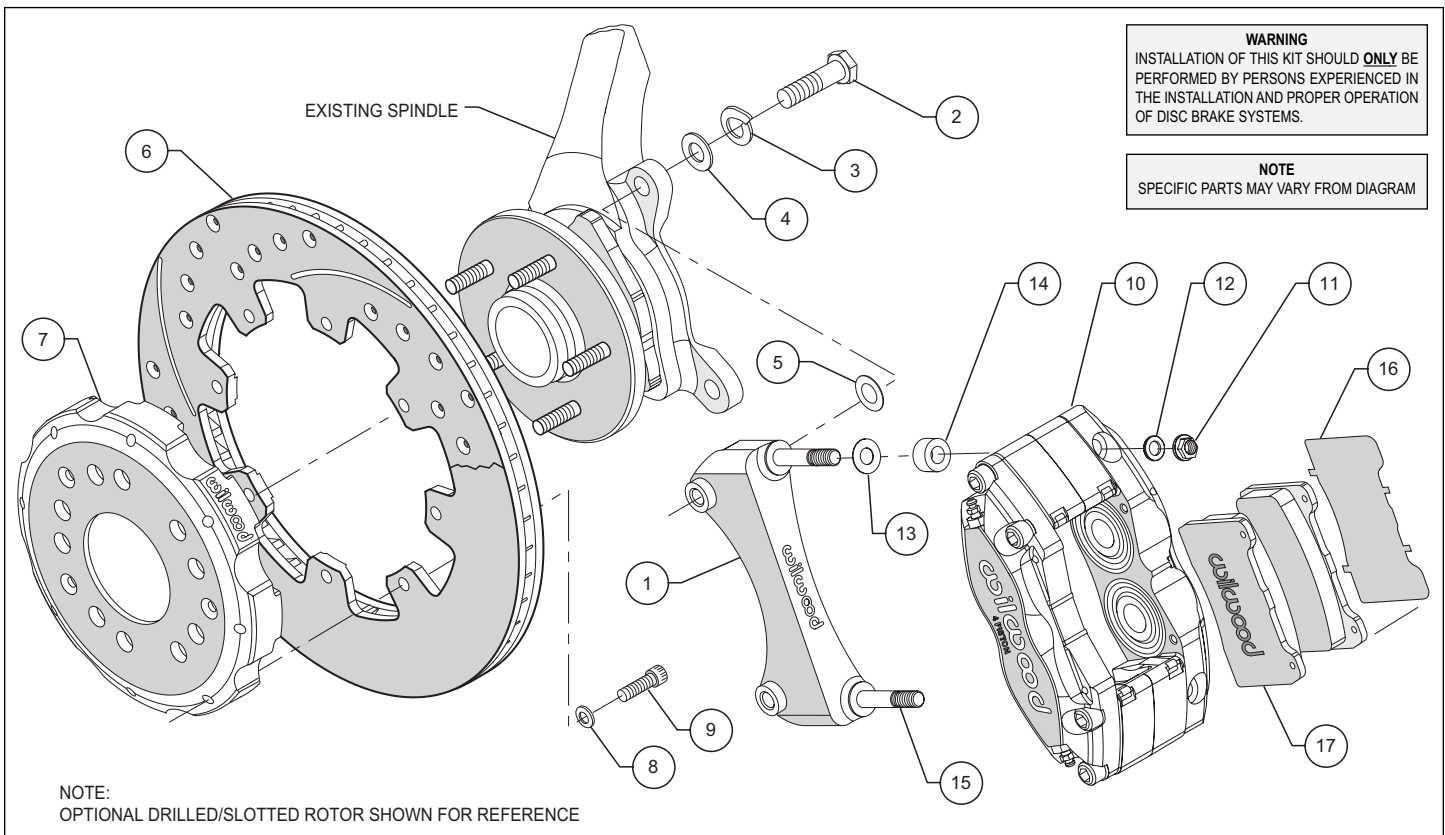

Figure 1. Typical Installation Configuration
- The caliper mounting bracket assembly (1) should be installed first with clean, dry threads on the mounting bolts. Install the bracket from the front side of the spindle by sliding bolts (2) through lockwasher (3) and flatwasher (4). Place washer (5) between the bracket (1) and the front side of the spindle (see Figure 1). The bracket must tighten squarely against the side of the spindle body. Inspect for interference from casting irregularities, machining ridges, burrs, etc. Use one thin shim (5) between the spacer and spindle during initial trial fitting.